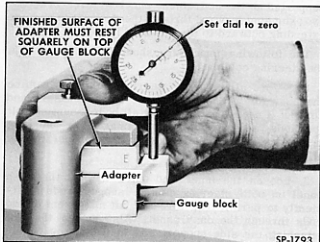

Fig. 29—Setting Pinion and Ring Gear Gauge
2. Assemble the Dial Indicator, Indicator Mount, and Adapter (parts of Pinion and Ring Gear Gauge Set W-99). Place them on the Gauge Block (also part of W-99) with the finished surface of the adapter resting on top of the gauge block and the dial indicator contact point resting on the "E" face of the gauge block (Fig. 29). Adjust the indicator so the contact arm is compressed to about 1/2 its full travel, then set the dial face to zero. **NOTE:** The "E" face of the gauge block should be used for setting pinions on all model 44 axles used in 1952 and 1953 vehicles.